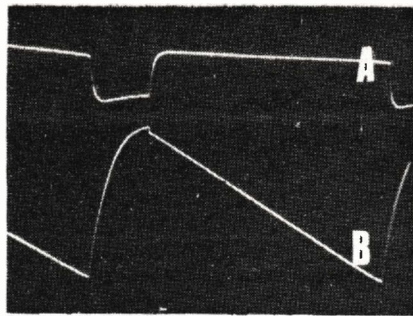

Fig.1. Typical time base waveform (B) with flyback suppression pulse (A) Note excellent linearity of time base waveform.
For the benefit of those unfamiliar with the oscilloscope, a few examples concerned with calibration may not be amiss. The oscillogram in Fig.1 shows a typical timebase waveform (B) beneath the negative-going trace flyback suppression pulse: Now the timebase waveform looks linear, which it is, and the flyback suppression pulse coincides exactly with the return of the timebase waveform from zero to maximum amplitude. A very linear timebase is important otherwise